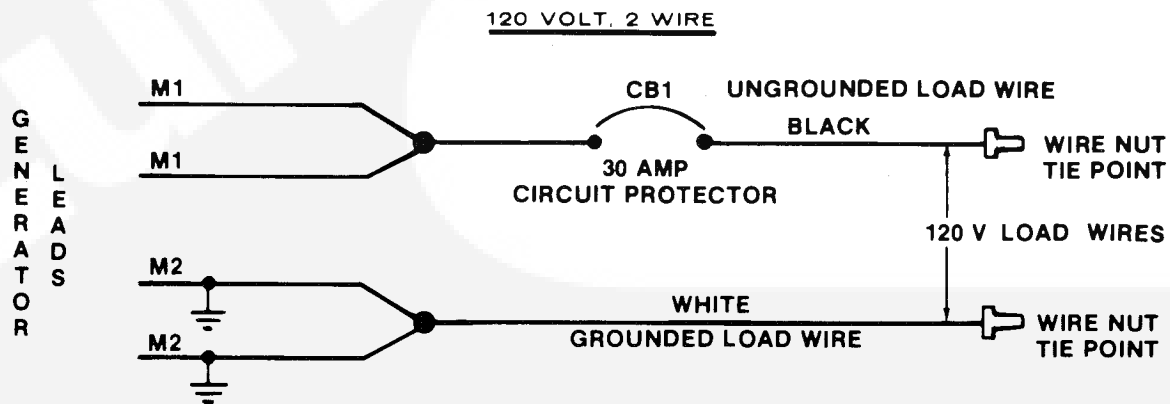

FIGURE 4. SINGLE-PHASE, "1R" VOLTAGE CODE GENERATOR CONNECTIONS
1. Generator set load wires M1, and M2 terminate within the junction box. Connect and join wires within junction box in an approved manner for desired voltage code. See figure 4.